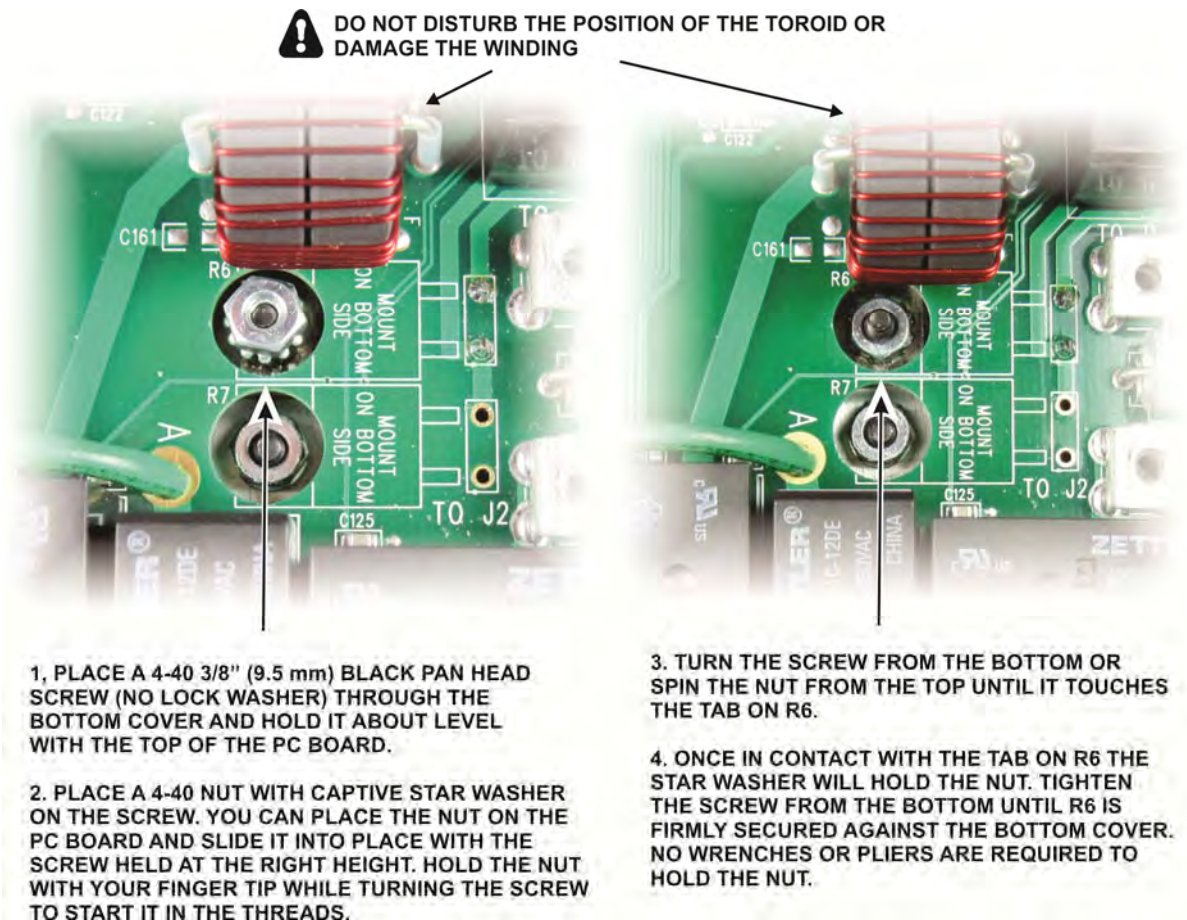

Figure 17. Installing the R6 Mounting Hardware.
- Turn the assembly over so the pc board is on top and install the R6 mounting hardware as shown in Figure 17 to secure R6 against the bottom cover.